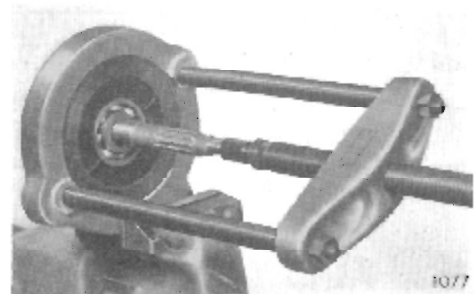

Fig. 18. Using Churchill press and adaptors to remove input shaft bearing
Remove the two circlips (99), (101), the distance washer (100), then place in a press and extract the ball race (102) and oil deflector (103), Fig. 18.